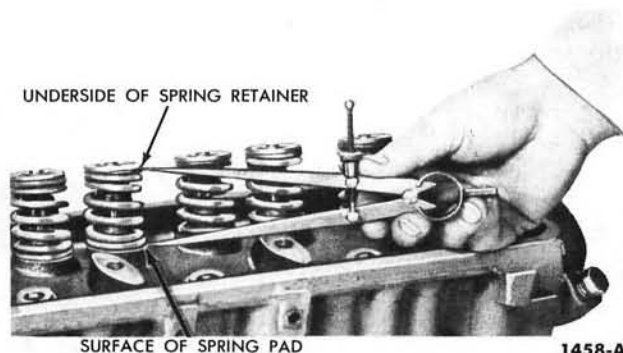

FIG. 18—Valve Spring Assembled Height
3. Measure the assembled height of the valve springs from the surface of the cylinder head spring pad to the underside of the spring retainer with dividers (Fig. 18). Check the dividers against a scale. If the assembled height is greater than $1\frac{13}{16}$ inches, install the necessary 0.030-inch thick spacer(s) between the cylinder head spring pad and the valve spring to bring the assembled height to the recommended dimension of $1\frac{25}{32}$ – $1\frac{13}{16}$ inches. **Do not install spacers unless necessary. Use of spacers in excess of recommendations will result in overstressing the valve springs which will lead to excessive load loss and spring breakage.**